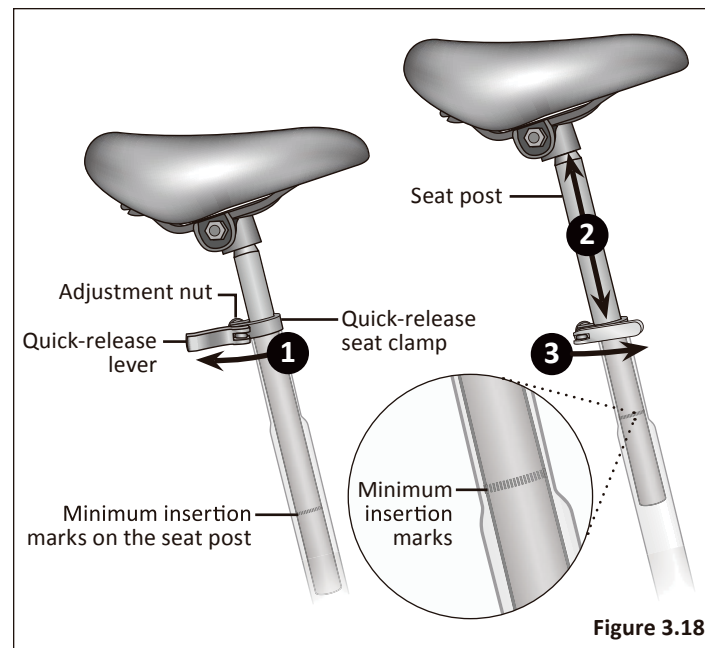

Figure 3.18
- ❶ Unlock the quick-release lever and insert the seat post into the seat tube. **Figure 3.18**
- ❷ Adjust the seat height up or down until the rider feels they have control of the bicycle and are comfortable.